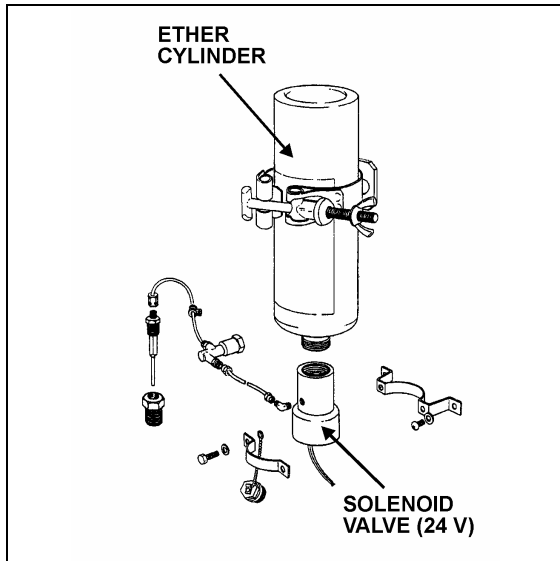

FIGURE 18: COLD STARTING AID
1. Check cylinder for hand tightness and fuel supply (Fig. 18). Empty cylinder weight is approximately 17 oz (480 g); full cylinder weight is approximately 35 oz (990 g). If cylinder is empty, replace it. Before replacing cylinder, install new valve gasket in solenoid valve.